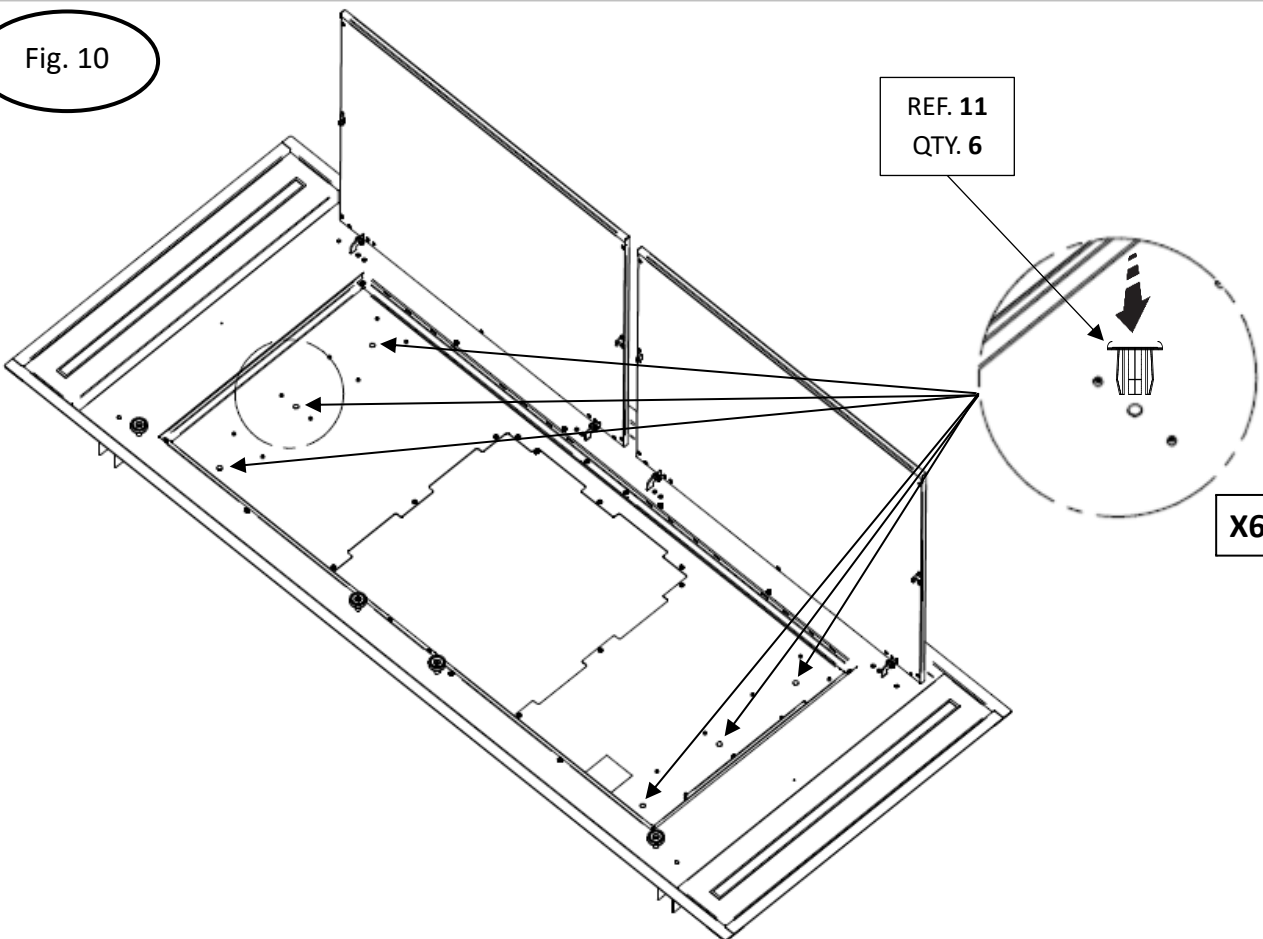

Fig. 11
- Mount the quick-release brackets using the 4 holes on the bottom. Insert the metric screw into the hole, at the same time on the rear side of the hood insert the spring into the screw body and screw it into the bracket (fig.11).